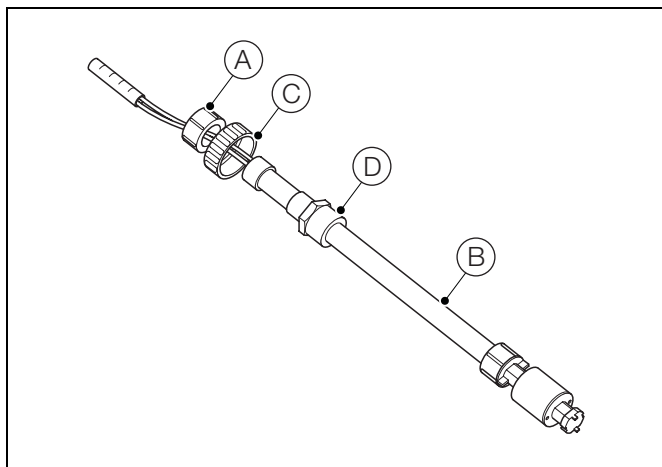

Fig. 3.11 Reagent Level Sensor
Care must be taken when installing the reagents to prevent contamination. Keep the reagent level sensor dry and avoid handling the stem. Hold the level sensor by clamp ring (A) – see Fig. 3.11.